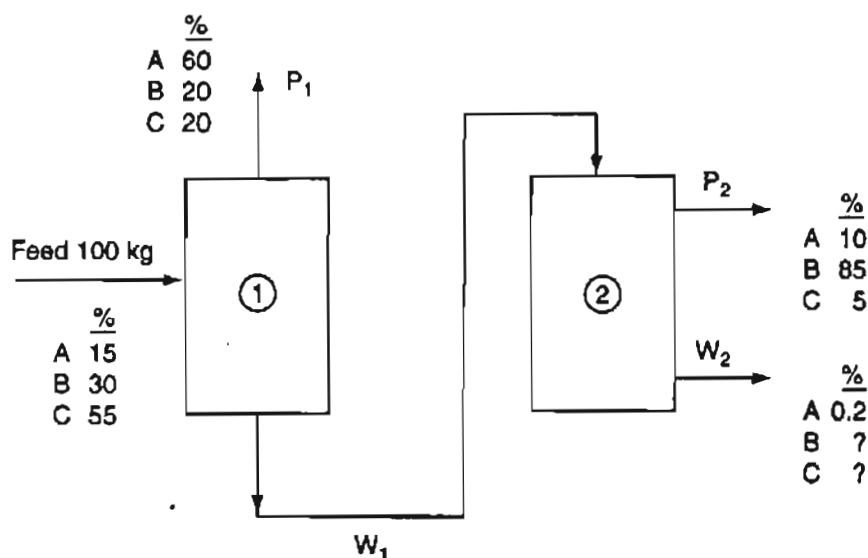

Figure P11.6
- ***11.6** In Figure P11.6 you will see two successive liquid separations columns operating in tandem in the steady state (and with no reaction taking place). The compositions of the feed and products are as shown in the figure. The amount of W₂ is 20% of the feed. Focus only on the material balances. Write down the names of the material balances for each column treated as separate units (one set for each column), along with the balances themselves placed next to the names of the balances. Also, place an asterisk in front of the names of the balances that will comprise a set of independent equations for each column. Write down in symbols the unknowns for each column. Calculate the degrees of freedom for each column separately.